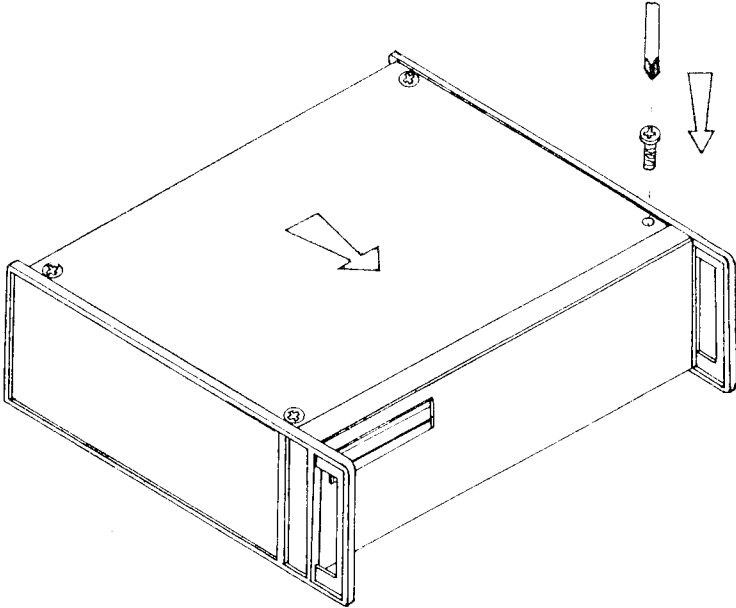

Figure 85. Replace Cover and Screws
e. Replace the 610B cover and the four screws (see Figure 85):